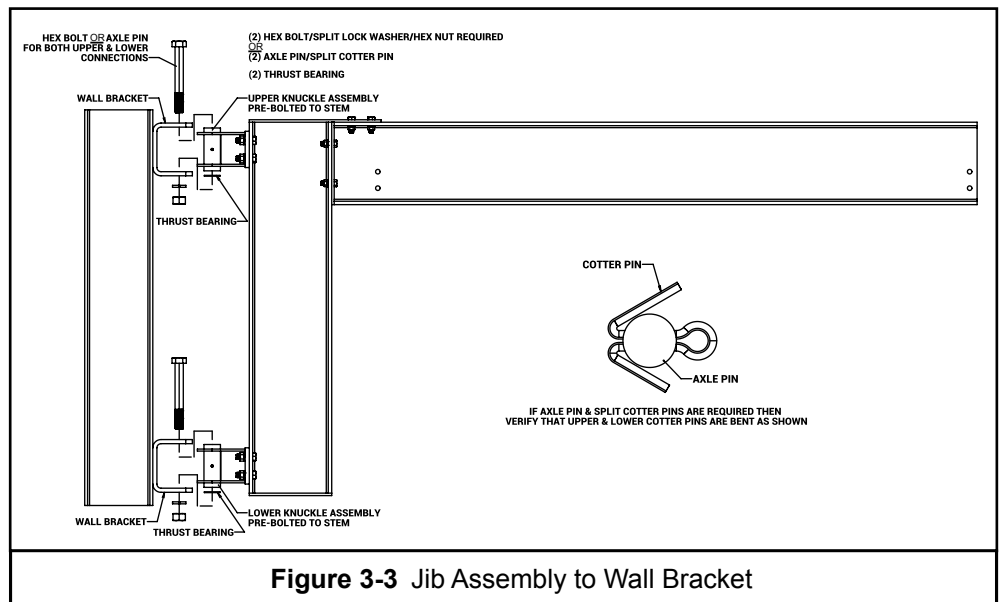

Figure 3-3 Jib Assembly to Wall Bracket
3.2.8 Raise jib into position and attach to wall bracket using hardware provided, see **Figure 3-3**. Tighten nuts on hex bolt until lockwashers are compressed, being sure boom rotates freely.